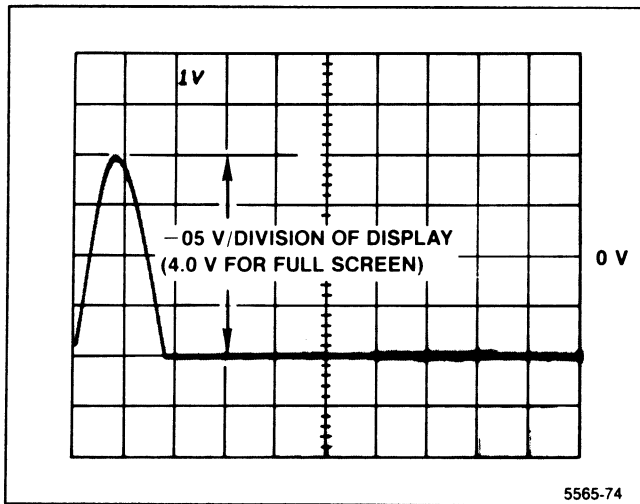

Figure 4-20. Test oscilloscope display of VERT output with a full screen display on the Spectrum Analyzer.
e. Check that the amplitude of the VERT OUTPUT signal is 4 V peak-to-peak  $\pm 0.2$  V centered around 0 Vdc as displayed on the test oscilloscope. See Figure 4-20.